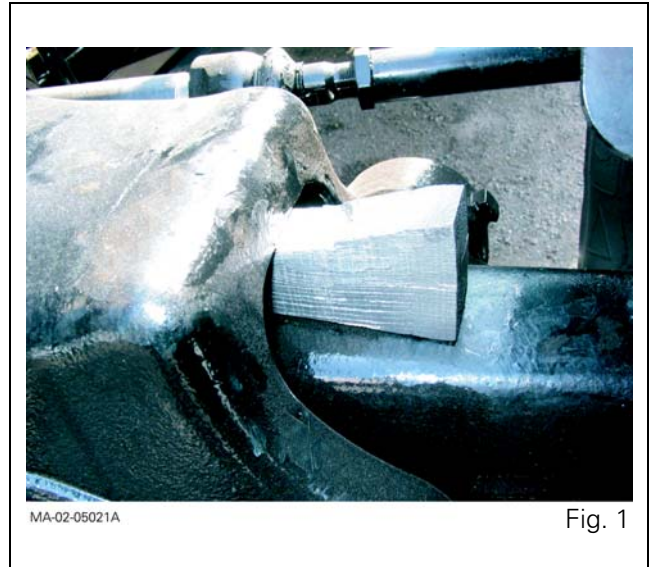

Fig. 1
2. Ensure that the suspended front axle (if fitted) is in raised position and position chocks between the upper control arm and front axle housing (Fig. 1).